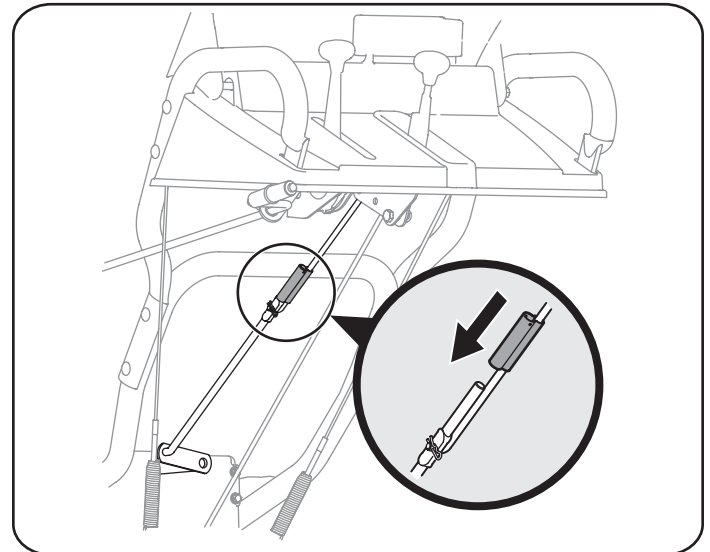

Figure 2
3. Align the upper and lower shift rods, then slide the shift rod connector down over the end of the lower shift rod. Tap the connector until the lower rod is completely through the connector. See Fig. 2.